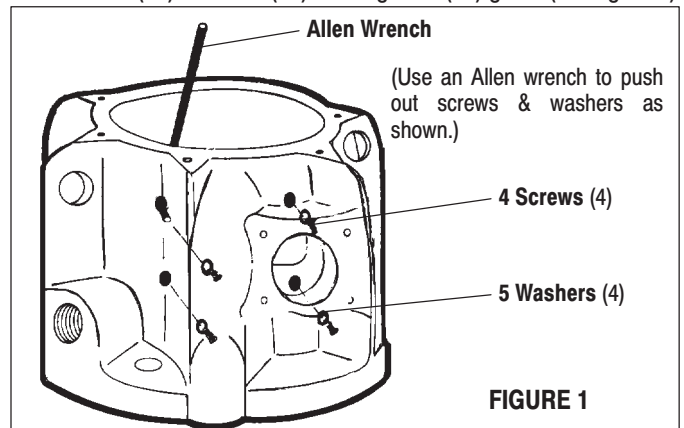

FIGURE 1
7. Remove four (4) screws and four (5) washers from (19) head assembly by pressing outward with a small allen wrench, as illustrated in figure 1.
8. With the aid of a screwdriver, unhook the legs of (13) insert spring assembly from the bottom of (12) valve plate.
9. Remove (12) valve plate and (13) insert spring assembly from (19) head by pulling upward. If (12) valve plate is stuck, tap the top edge lightly with a soft face mallet. **Do not tap with anything metallic.**
10. Remove both (11 and 14) inserts and (13) insert spring assembly from (12) valve plate.
11. Remove (15) gasket from (19) head assembly.
12. Remove two (6) screws and two (7) lock washers from (33) gland in (19) head assembly.
13. With fingers, pull (31) valve piston upward until (33) gland has pulled out of its chamber.
14. Remove (33) gland by sliding it up over (31) valve piston.